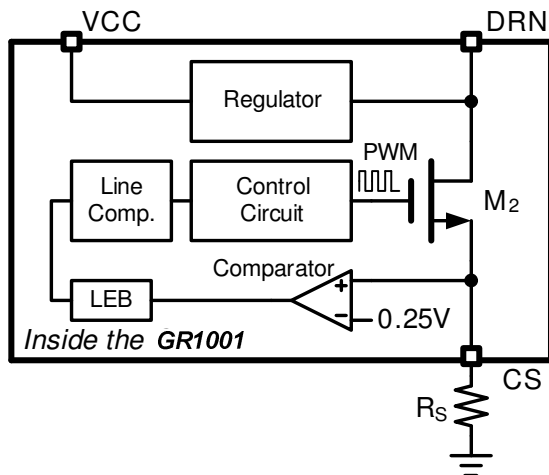

Figure-1 The brief schematic to explain the system operation.
* Refer to the Figure-1.
GR1001 is a constant current PWM converter for high brightness LED driving. In the Figure-1, after the V_{IN} ramps up, the V_{ST} also ramps up to the target with a delay time. This voltage turns on the M_1 when its level greater than the V_{TH_M1} , then the V_{CC} was created. M_2 was turned on in the on period of the first cycle. The current flows through LEDs, L_1 , M_1 , M_2 , R_S , and back to C_{IN} finally. In the end of this period, the M_2 might be to turn off when the V_{CS} reached 0.25V. A fixed off time was followed as the off period of the first cycle. During the off period, the current flows through LEDs, L_1 and D_1 . A new cycle will start when the fixed off time finish.
An internal regulator in the GR1001 could generate a 5V voltage source to supply the operating current for control circuit. The input voltage of the internal regulator is the V_{DRN} . V_{CC} regulated in the M_2 off period due to the V_{DRN} is approximately zero volt in the M_2 on period. Therefore, a capacitor, shown in the Figure-1, located to the V_{CC} to hold on the V_{CC} during the M_2 on period is necessary. The ceramic type of capacitor is suitable for V_{CC} retaining, a $1\mu F$ capacitor could supply the operating current of the control circuit for tens microsecond with a very good voltage regulation.
The different height of V_{CS} means the different I_{OUT} that shown in the Figure-1. The line voltage compensation function was applied in the GR1001 to improve the output current regulation. The V_{P1} to V_{P3} in the Figure-4 illustrates the compensation results by the line voltage compensation.
The (4) to (6) could be used to estimate the capacitance of C_{IN} that shown in the Figure-1.